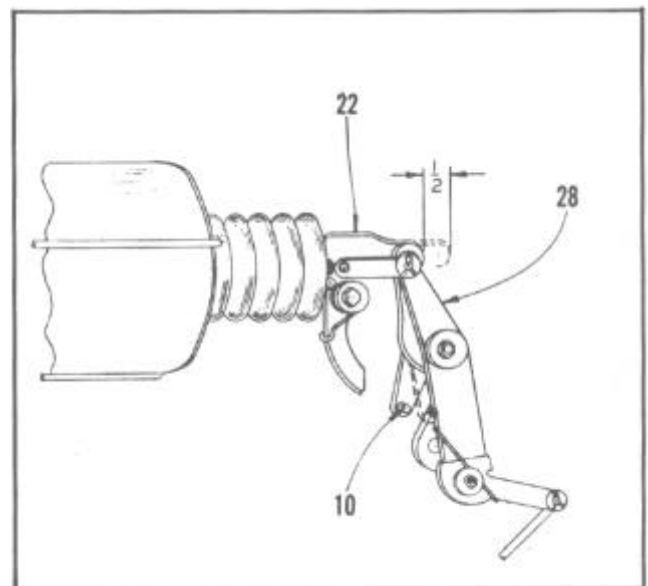

FIGURE 21
Check this adjustment by pushing on valve lever (28) and then releasing. Above adjustment should be made with the compensator lever in the starting position; pin (10) forward as shown in solid lines Figure 21.